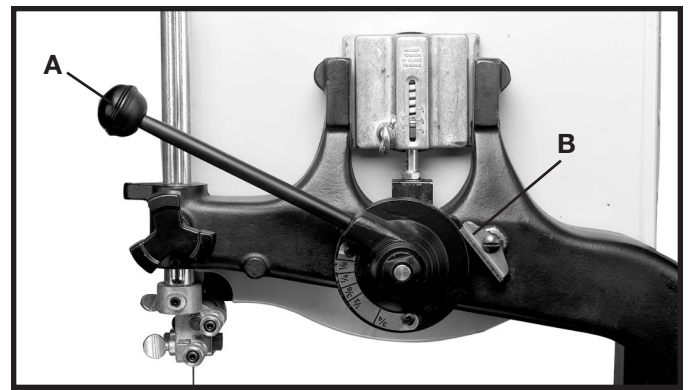
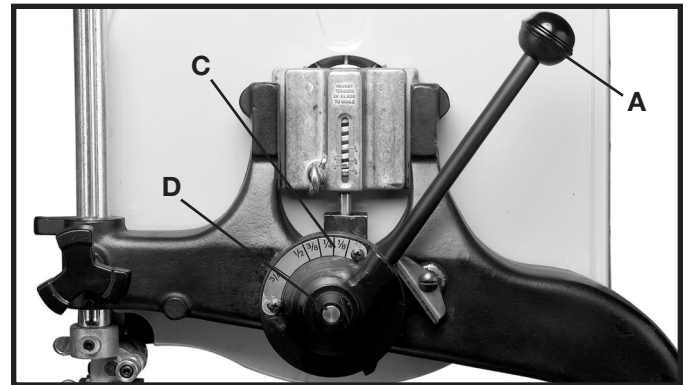

Fig. 49
Fig. 50
The band saw is equipped with a quick tensioning blade mechanism. To apply tension, move the tension handle (A) to the left as shown. To release tension, move the tension lever lock (B) Fig. 49 up, and move the tension handle (A) to the right as shown in Fig. 50.
2. Push up on the blade tension lever lock (B) Fig. 49, move the blade tension handle to the right, to remove the blade tension.
4. Pull out on the blade tension handle (A) Fig. 50, and turn the the tension lever until the appropriate width of the blade is shown on the top of the blade tension lever scale (C) and then release the blade tension lever handle.
5. Move the blade tension handle to the left until the lever lock (B) Fig. 49 engages the blade tension lever handle (A).